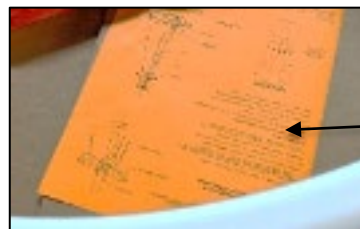

FIG.6 - INSTALLATION INSTRUCTIONS
5. INSTALLATION INSTRUCTIONS (shown in FIG. 6) - Please completely read the install instructions before starting installation.